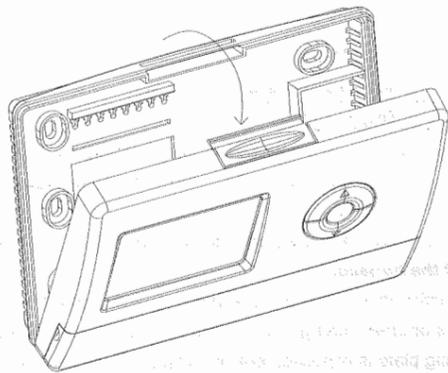

Figure 2
- Remove the wallplate from your thermostat. See Figure 2.
- Insert the tabs on top of the thermostat body into the slots at the top of the wallplate. Press the bottom of the thermostat body into the snap on the bottom of the wallplate. Refer to Figure 2. (NOTE: Do not force the thermostat onto the wallplate, as the terminal pins may be damaged. If it does not snap properly, the thermostat may not work.)